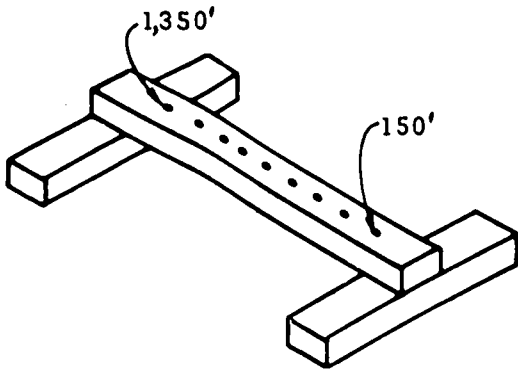

Fig. 13-1. Level Bar
1. See that each group has a site box with sand and level bar and stadia rod. See Figs. 13-1, 13-2, 13-3.
3. Explain that before contour lines are drawn, all (117) measurements should be recorded.